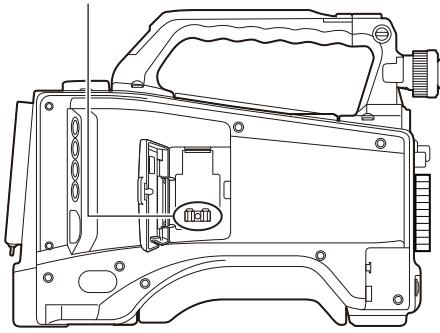

Fig. 2
**2** Remove the wireless module fixing part from the camera. (Fig. 2)